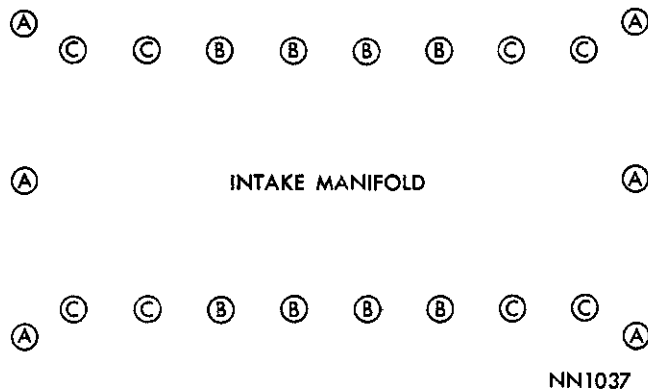

Fig. 8—Intake Manifold Tightening Sequence
(8) Install new intake manifold gaskets and intake manifold; make sure end gaskets are positioned over locating dowels marked "A" in Figure 8. Tighten screws marked "B" to 72 inch-pounds, and screws marked "C" to 48 inch-pounds. Repeat the tightening procedure in the sequence shown until all screws maintain their specified torque.
(9) Connect fuel line, automatic choke, intake manifold heat tubes, transmission throttle rod to upper bell crank, accelerator cable and adjust as necessary.
(10) Install crankcase ventilation hose, distributor cap with spark plug cables, and coil wire and cable.
(11) Install alternator, battery ground cable and heater hoses if removed.
(12) Connect power brake booster, if so equipped and bleed brakes.
(13) Fill the cooling system. Start engine and check for leaks.
(14) Adjust ignition timing and carburetors to specifications. Road test vehicle.